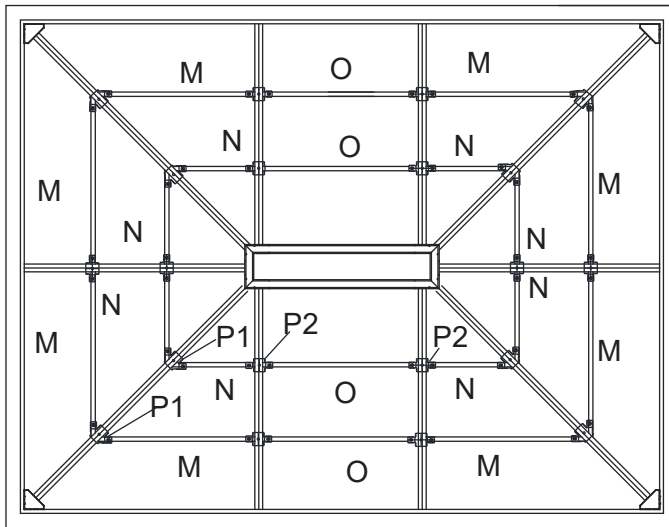

Figure 10-5
10.5: Repeat for all sides. Tighten all Bolts. See Figure 10-5.